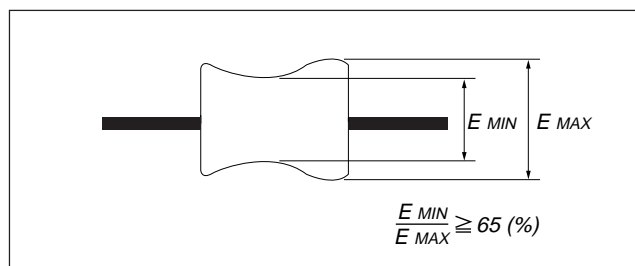

Fig. 5-10.
- 2) During step 1, confirm that the minimum amplitude (E_{MIN}) is 65% or more of the maximum amplitude (E_{MAX}) of the RF waveform. (Refer to Fig. 5-10)